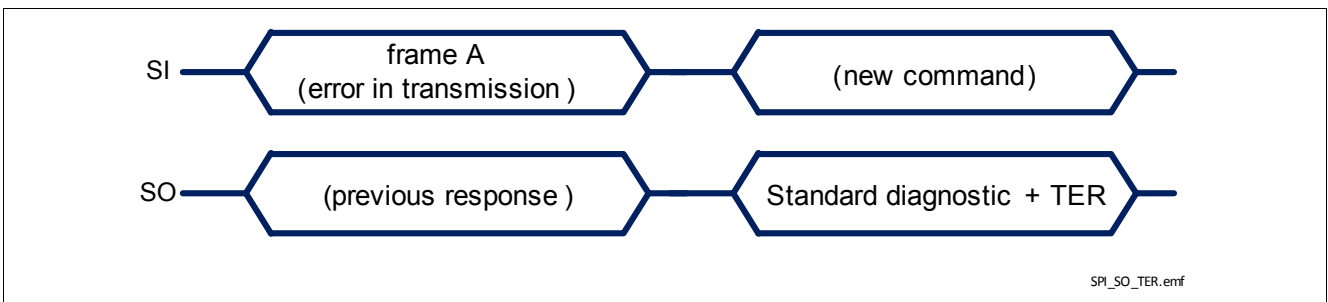

Figure 32 BTS54220-LBE response after an error in transmission
- in case an error in transmission happened during the previous frame (for instance, the clock pulses were not multiple of 8), shown in Figure 32